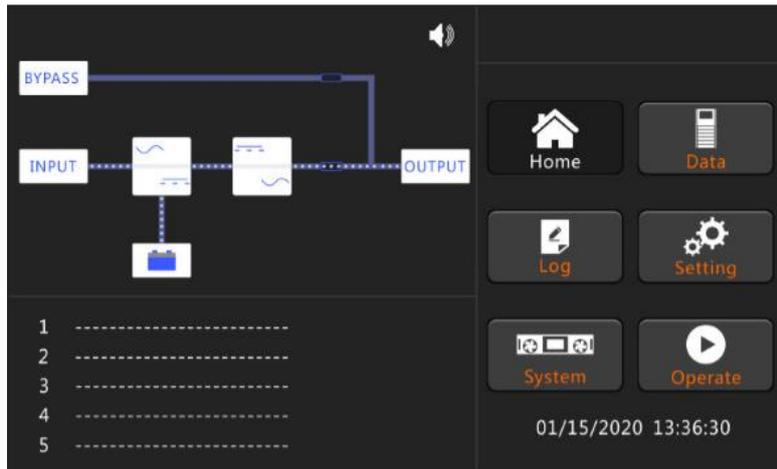

Figure 4-5 Starting completed
7) The startup has finished, users can close the external or internal battery breaker, the main output breaker, and then close the branch breakers one by one. Figure 4-5 shows the completeness of starting.